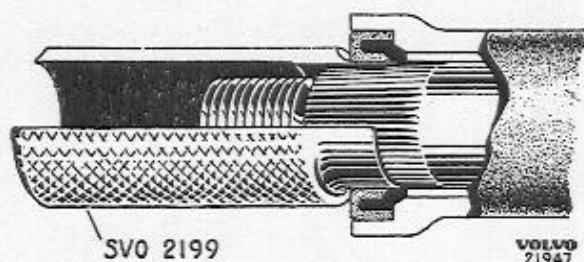

Fig. 29. Fitting the sector shaft.
5. Press in the sector shaft seal ring. Use tool SVO 2199 as shown in fig. 29 and fit the sector shaft in the housing. Add a few drops of oil to the sector shaft adjuster screw.